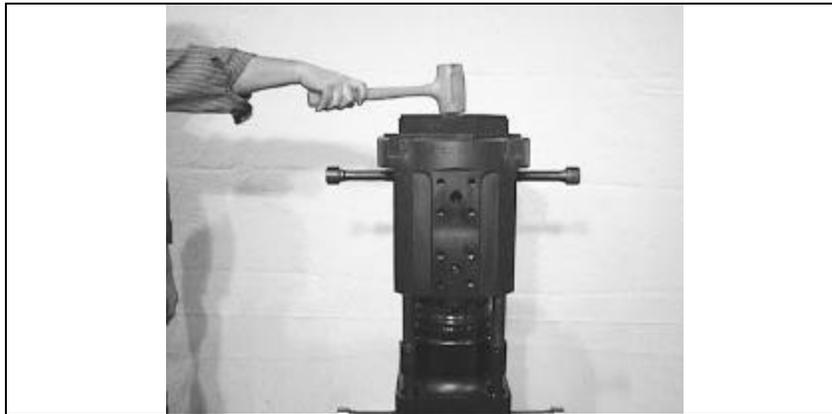

Figure 08-44: Using a Dead Blow Hammer to Drive Head down
4. Using a plastic/dead-blow sledgehammer, drive the head down over the Distributor Box Body Cover (Position 302) until it bottoms out on the Cylinder (Position 201). (Figure 08-44)